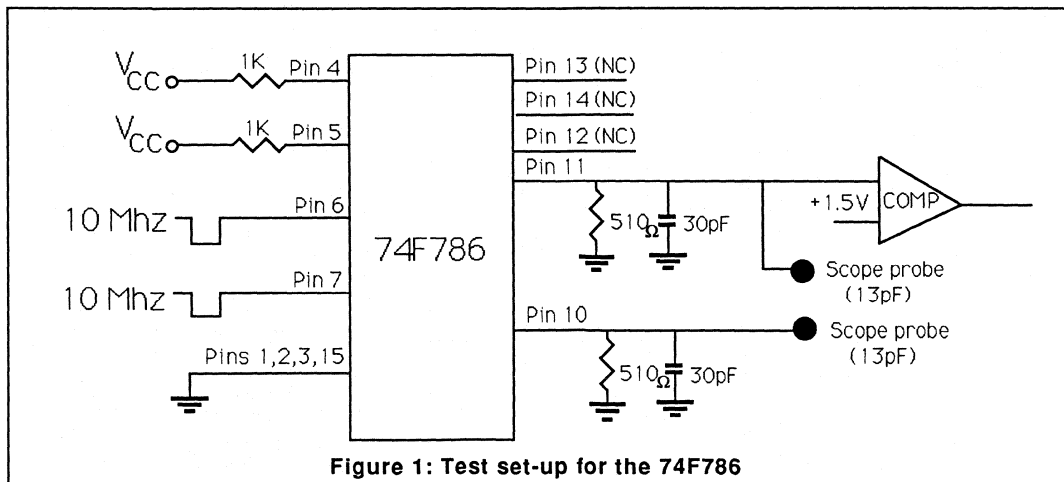

Figure 1: Test set-up for the 74F786
Through out the test period, the connections to some of the package pins was as shown in Figure 1. The 4 input pins (1, 2, 3 and 15) to the AND gate were all grounded. The output of the AND, pin 14, was left open. The output enable \overline{EN} pin (9) was grounded. The power ground pin (8) was grounded and the V_{CC} power pin (16) was connected to V_{CC} . The 4 input pins to the arbiter (4, 5, 6 and 7) were treated as a group with two of the pins always
The test conditions used for the selection process from the 19 packages is shown in Figure 1 with the results shown in Table 1. The values reported in Table 1 were calculated with t' (defined later) at 7.60 and 9.93ns. Note that the active inputs are pins 6 and 7 and the output tested is pin 11. The last column of this table is the period, after two requests, required to assure that the pack-